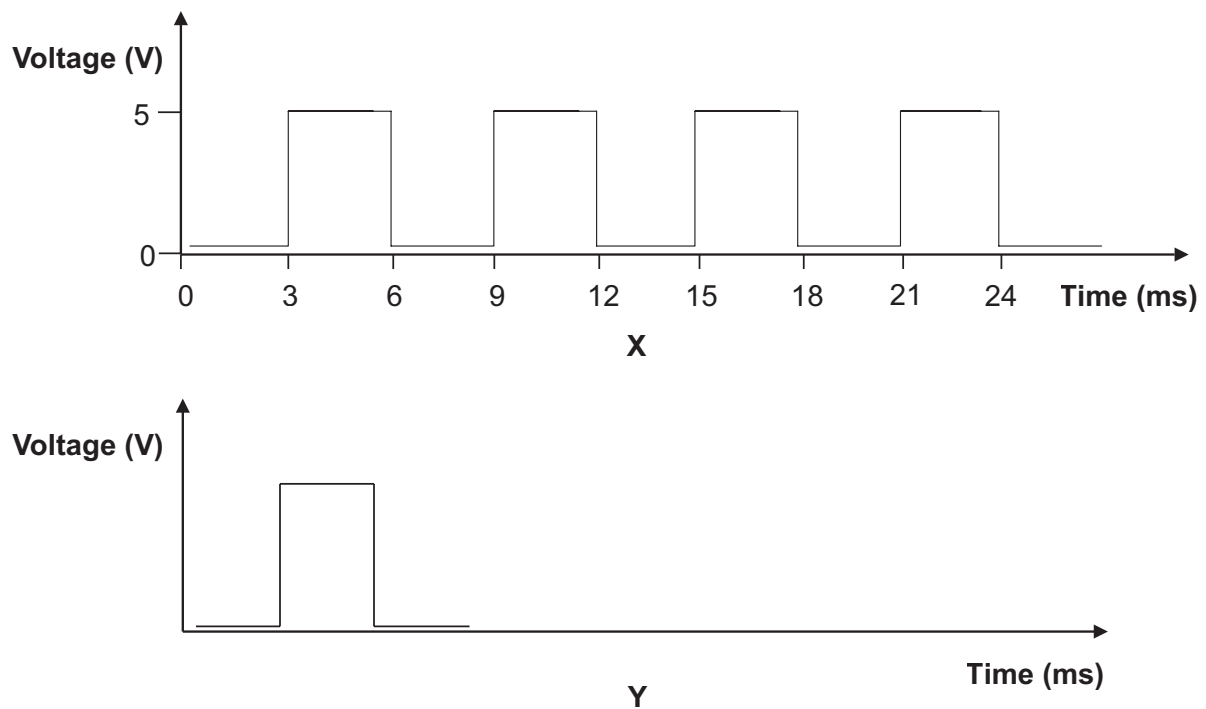

Fig. 4
- (c) Two output waveforms from a 555 IC, labelled **X** and **Y**, are shown in **Fig. 4**. One is the output from an astable circuit and the other is from a monostable circuit.
- (i) Identify the astable output waveform and the monostable output waveform in **Fig. 4** and provide a written explanation of an astable output and a monostable output.
- (ii) Describe **four** pieces of information that can be obtained from the waveform shown at **X** in **Fig. 4**.
- (iii) Calculate the frequency of the output for the waveform shown at **X** in **Fig. 4**.